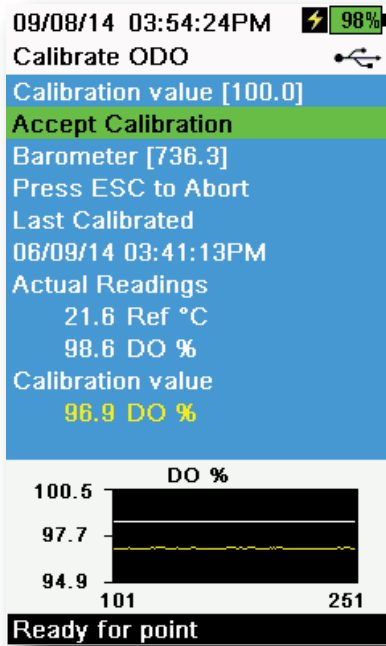

Figure 47 Calibrate ODO %
6. Observe the actual measurement readings for stability (white line on graph shows no significant change for 40 seconds), then select **Accept Calibration** (Figure 47). “Calibration successful!” will be displayed in the message area.